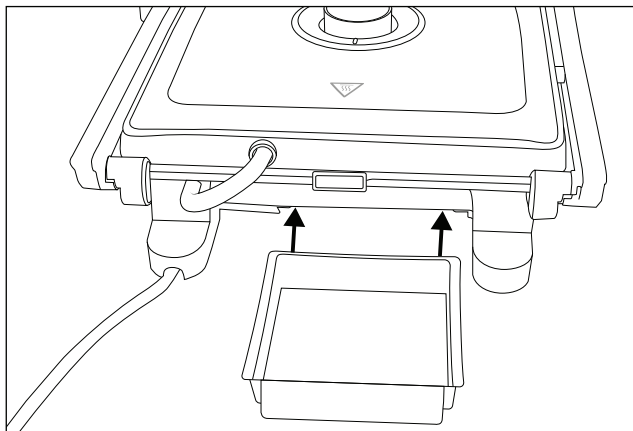

Fig. 1
- 1) Close the appliance lid using the handle ⑤.
- 2) Slide the juice collector ⑨ into the holder on the back of the appliance (fig. 1).
- ◆ Close the safety catch ❹.
- ◆ You can place the cleaning scraper ❸ in the juice collector ❺ for storage. Afterwards, slide the juice collector ❺ back into the holder on the back of the appliance (fig. 1).